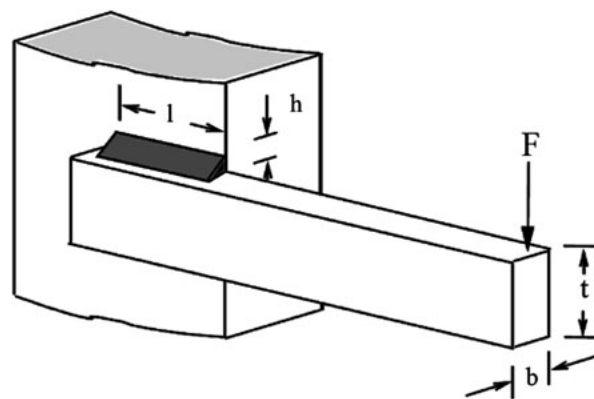

Figure 2. Welded beam design.
The objective is to design a welded beam for minimum cost. There are four design variables height of weld (h), length of weld (L), height of beam (t) and width of beam (b) as shown in Figure 2. Design is subjected to the constraints on shear stress (s), bending stress in the beam (r), buckling load on the bar (P_c), end deflection of the beam (d) and side constraints. The problem can be stated as follows: